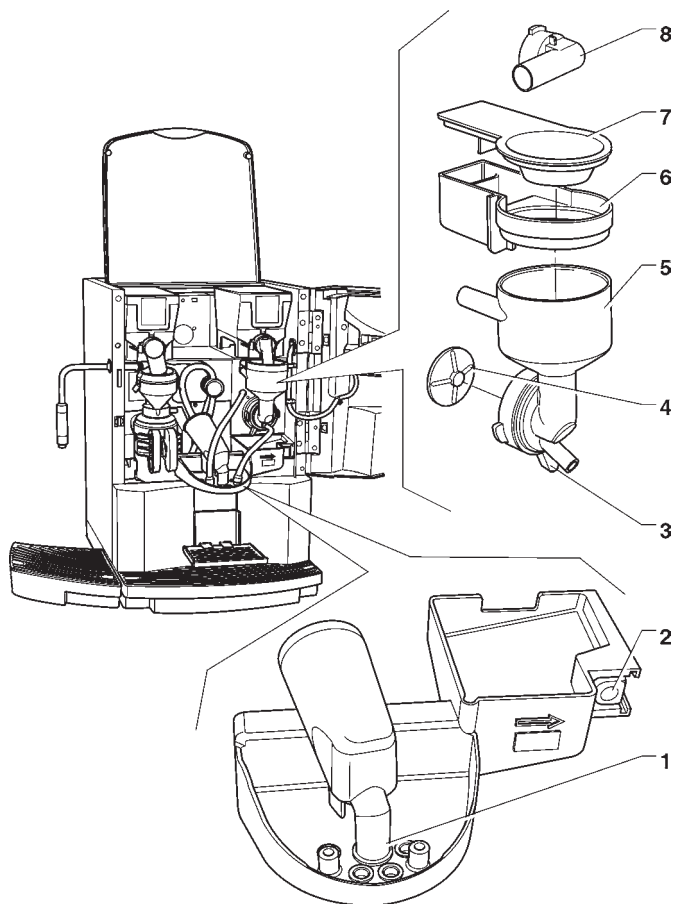

Fig. 9
- remove the powder and the water funnels, the feeders, the powder deposit drawers and the mixer wheels from the mixers (see Fig. 9);